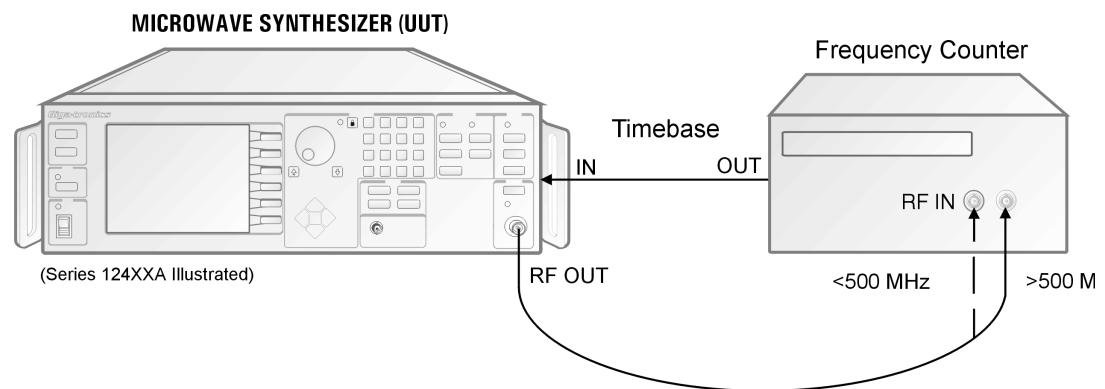

Figure 4-1: Frequency Range, Resolution & Accuracy
1. Connect the equipment as shown in Figure 4-1. Connect the 12000A RF Output to the 10 to 500 MHz counter input using the coaxial cable and the SMA to BNC adapter. Allow the equipment to warm up for at least 30 minutes. Because the 12000A and the counter use the same timebase, timebase errors are eliminated. The 12000A will automatically switch to the external reference when it is connected.